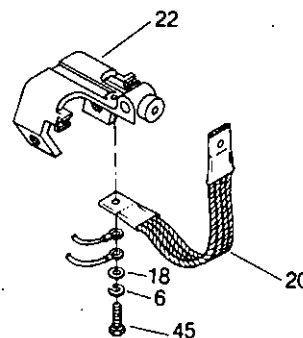

Figure 6
1. With all power removed, disconnect the arc chute wires by removing the hex head cap screw (47), washer (19), lockwasher (48), arc chute wires and shunt (21). (Fig. 6)
3. Remove the arc chute by removing hex head nut (17), lockwasher (8), hex head cap screw (45) and the arc chute.
6. Reconnect arc chute wires (Fig. 6) and shunt, using the washer, lockwasher and hex head cap screw.
1. With all power removed, disconnect the bottom end of the shunt (21) by removing hex head cap screw (47),
lockwasher (48), washer (19), arc chute wires and shunt. (Fig. 6)
2. Disconnect the top end of the shunt (21) by removing hex head nut (20), lockwasher (48), washer (19) and the shunt.
3. Check that auxiliary arm pin (27) is centered and set screw (18) is tight.
5. Connect the bottom end of the shunt by replacing the shunt, arc chute wires, washer, lockwasher and hex head cap screw (Fig. 6).